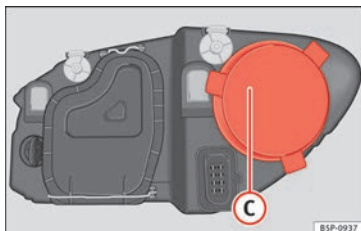

Fig. 180 Main beam headlight.
- Remove the cover »» **Fig. 180 ③** by pulling on this.